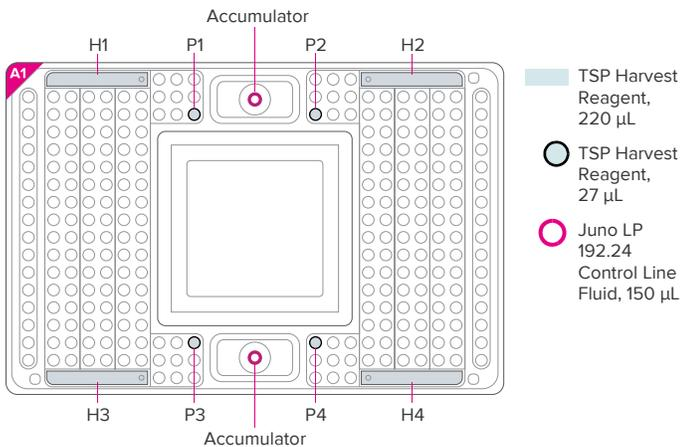

Figure 4. Priming map for the LP 192.24 IFC
- Inject Juno LP 192.24 Control Line Fluid into each accumulator on the IFC (see Figure 4).
- Place the IFC on a flat surface and pipet 27 µL of TSP Harvest Reagent into each of the P1, P2, P3, and P4 inlets (see Figure 4).
- Pipet 220 µL of TSP Harvest Reagent into each of the H1, H2, H3, and H4 harvest reservoirs (see Figure 4).